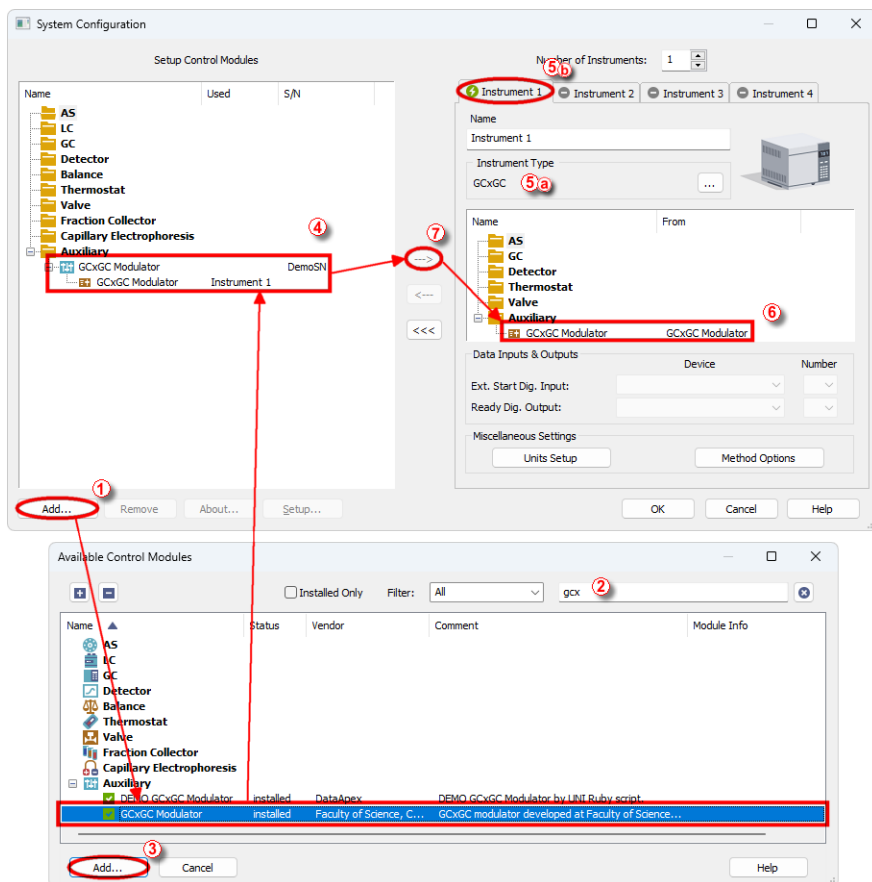

Fig. 3: System Configuration
- Press the **Add** button ① (See **Fig. 3** on pg. 4.) to invoke the **Available Control Modules** dialog.
- You can specify the searching filter ② to simplify the finding of the driver.
- Select the **GCxGC Modulator** item in the **Auxiliary** section and press the **Add** ③ button.